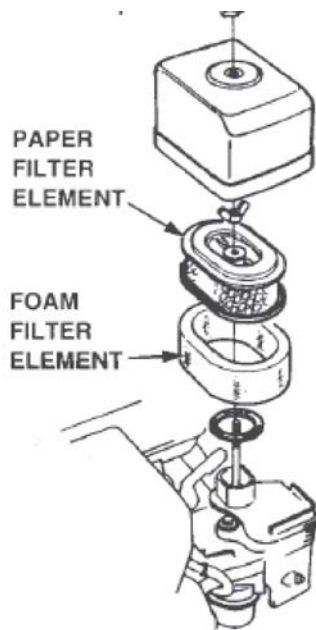

Figure 15. Air Cleaner
1. Remove the air cleaner cover and foam filter element as shown in Figure 15.
2. Tap the paper filter element (Figure 15) several times on a hard surface to remove dirt, or blow compressed air [not exceeding 30 psi (207 kPa, 2.1 kgf/cm2)] through the filter element from the air cleaner case side. **NEVER** brush off dirt. Brushing will force dirt into the fibers. Replace the paper filter element if it is excessively dirty.